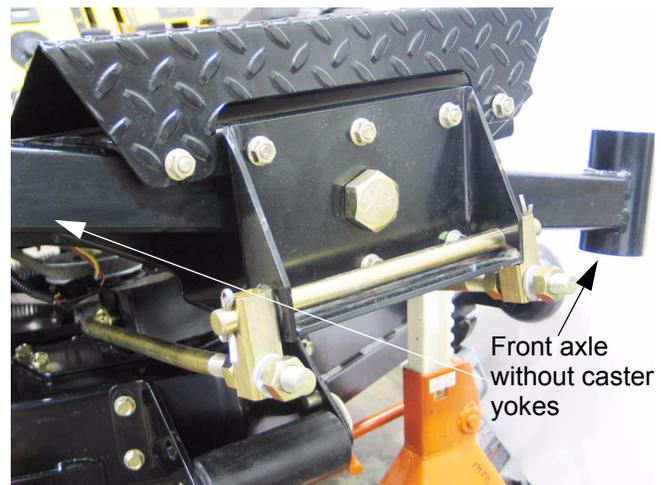

Figure 27.30
- 27.30. Remove the caster yokes to make the front axle easier to handle. See Figure 27.30.